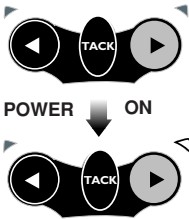

Fig 5.10 - Selecting StandAlone mode
- To select **StandAlone mode**, press and hold the **TACK** and ◀ keys and turn the power on (Fig 5.10).